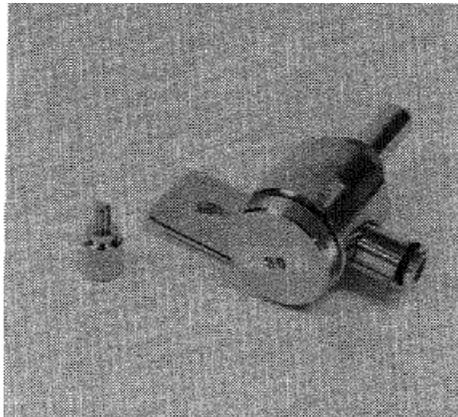

Figure 4. Impactor assembly
Step 1. Locate the impactor assembly (in the triangular compartment) in the carrying case (Figure 4).